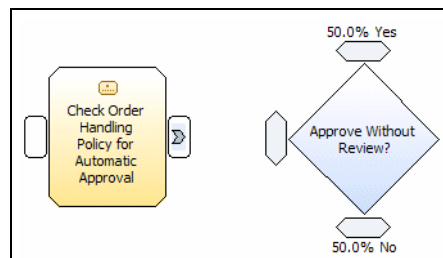

Figure 7-10 Decision Approve Without Review?
- ▶ Select the *Create a simple decision* icon  and move the mouse to the diagram area on the right side of Check Order Handling Policy for Automatic Approval, and then click to insert the decision node (Figure 7-10).